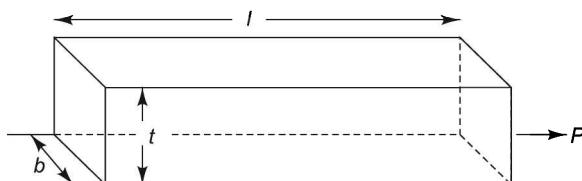

FIGURE 15.19 Volumetric strain for a rectangular section.
The volumetric strain for a rectangular section due to axial force (P) can be found out (Figure 15.19).